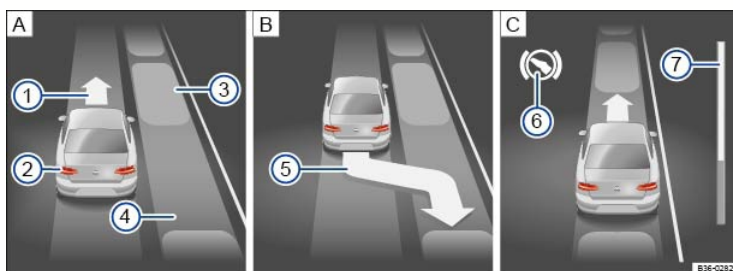
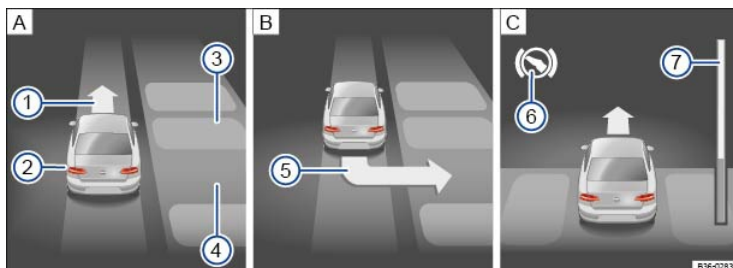

Fig. 156 In the instrument cluster display: Parallel parking. Searching for a parking space, positioning the vehicle for parking, maneuvering.
Fig. 157 In the instrument cluster display: Parking perpendicular to the road. Searching for a parking space, positioning the vehicle for parking, maneuvering.
Key to ⇒ Fig. 156 and ⇒ Fig. 157 :
The progress bar $\Rightarrow$ Fig. 156⑦ or $\Rightarrow$ Fig. 157⑦ in the instrument cluster display shows the relative remaining distance using symbols. The higher the progress bar the longer the remaining distance. When driving forward, the progress level moves up; when driving in reverse, it moves down.